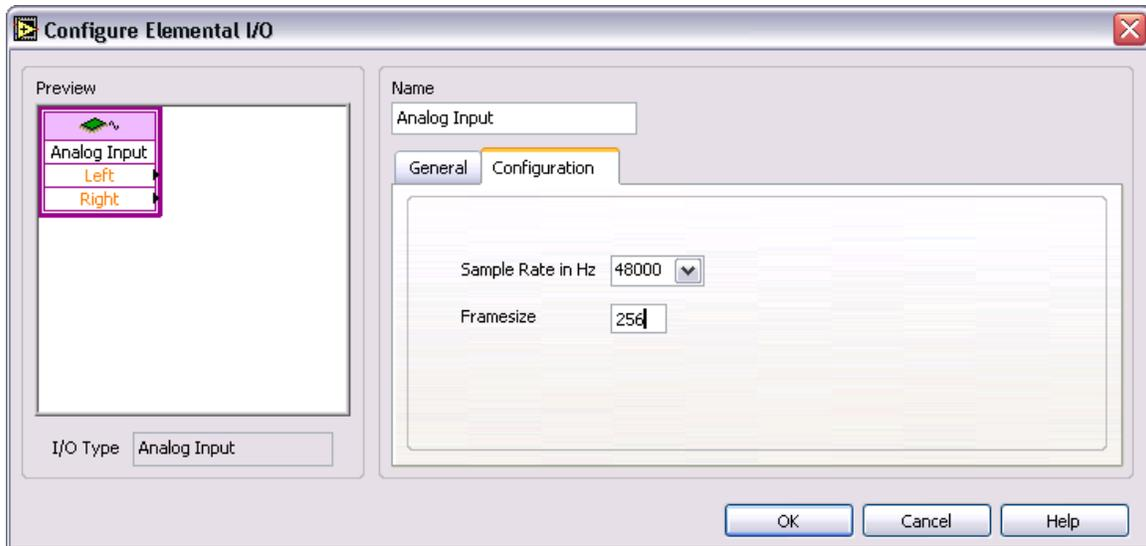

Figure 3
2. Switch over to the Block Diagram window by left clicking on it and start developing your application. You will now develop a simple VI to read in an analog input from the A/D channel and play it back using the D/A channel. From the menu select Window»Show Functions Palette. The Functions pallet contains functions or VIs that you will wire together to develop the application. Click on the Elemental I/O palette and bring out the Analog Input Elemental I/O node and place it on the block diagram. This node is used to read in analog input from the A/D channel. Similarly place the Analog Output Elemental I/O node on the block diagram. Refer to Figure 3 below for details.